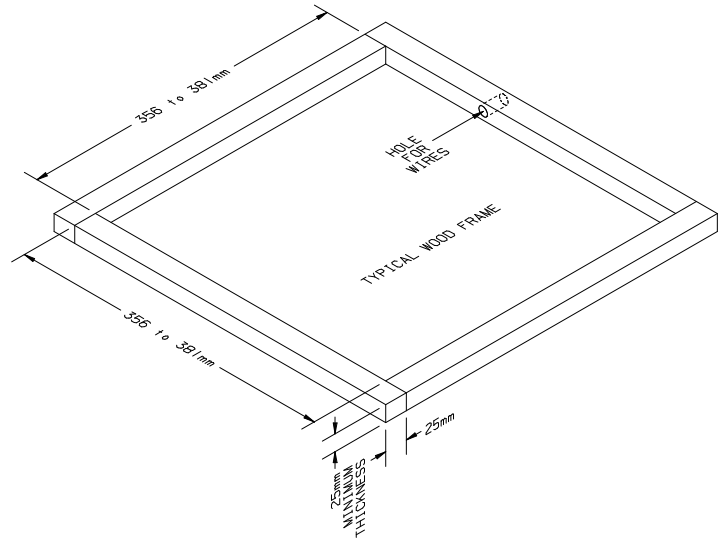

FIGURE 1
- B. If a roof vent opening is not used, a new opening (See Figure 1) will have to be cut into the vehicle roof. A matching opening will also have to be cut into the interior vehicle ceiling. If the ceiling opening is carpeted, snagging could occur. After the opening in the roof and interior ceiling are the correct size, a framed support structure must be provided between the exterior roof top and interior ceiling. The reinforced framed structure must provide the following guidelines:
Airxcel, Inc. recommends that the spacing from the vehicle roof top to the interior ceiling top be no less than 25mm. A typical support frame is shown in Figure 1.